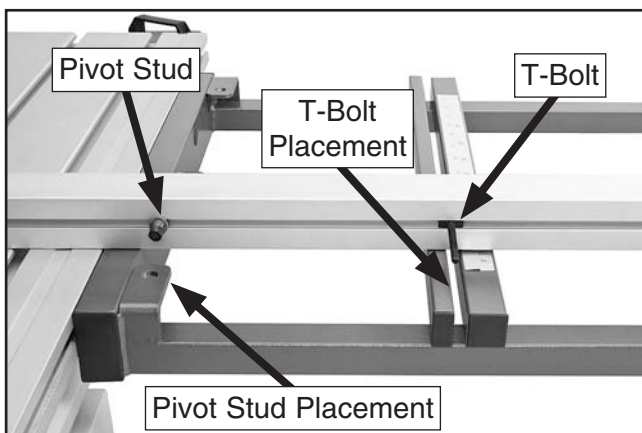

Figure 49. Back end crosscut T-slot components.
- c) Align the M8-1.25 x 60 T-bolt with the placement position shown in Figure 49.
- d) Align (1) M8-1.25 T-nut with the pivot stud placement position, then hand-tighten the M8-1.25 x 10 pivot stud with the 8mm fiber flat washer into the T-nut, as shown in Figure 49.
55. Turn the crosscut fence over, insert the pivot stud in its placement hole (see Figure 49), then slide the fence up to the main saw blade so that polyurethane end block is against the blade.